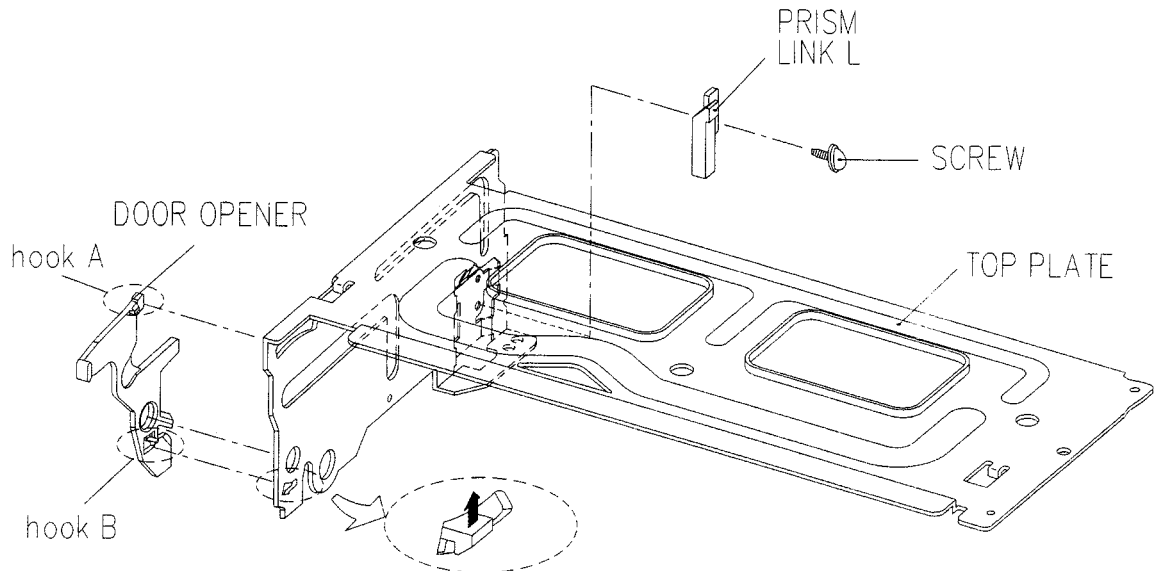

Fig. 3-4 DISASSEMBLY OF THE TOP PLATE
d. Remove one screw holding the PRISM LINK L. (Fig. 3-4)
e. Release the hook B by pushing it in the direction of the arrow and remove the DOOR OPENER. (Fig. 3-4)